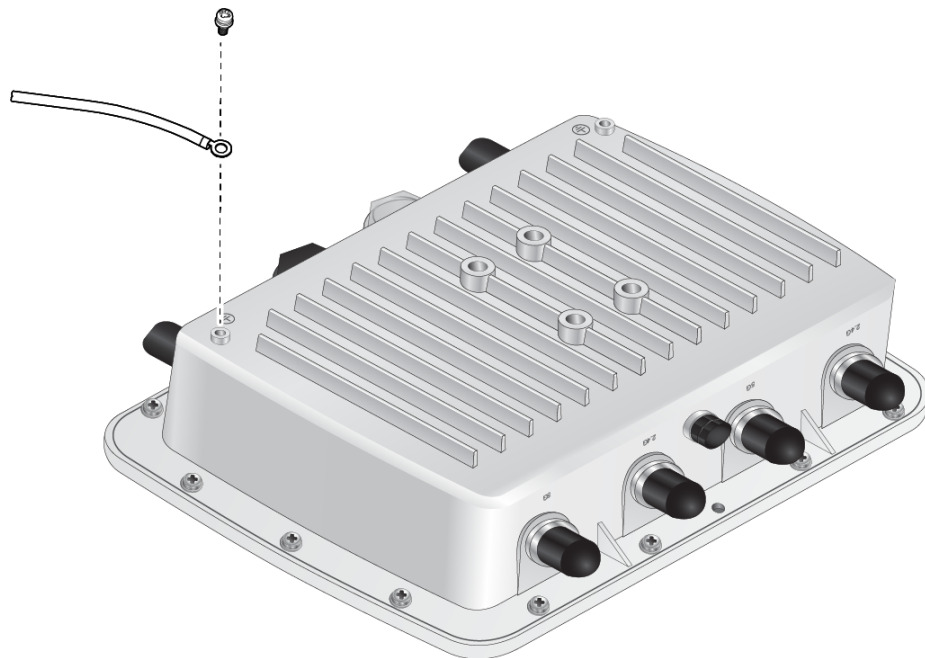

Figure 7. Connecting the Ground Wire to the Access Point
3. Insert the screw through the ground lug on the ground wire and secure the wire to the selected ground post on the access point, using a Phillips-head screwdriver. Refer to Figure 7.